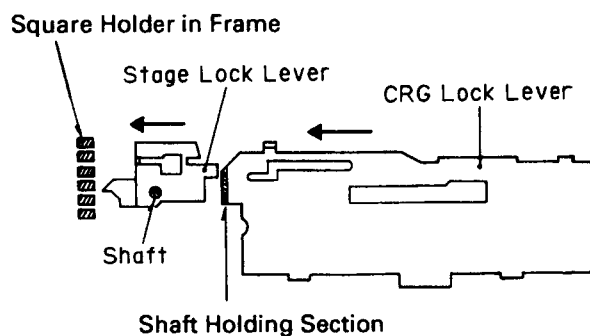

Fig.27
1. The CRG lock lever slides and pushes the stage lock lever. (Fig. 27)
2. The wedge shape of the lever tip is held in place by the square hole of the frame, and the stage mechanism is actuated in the left/right and up/down directions.(Fig. 27)